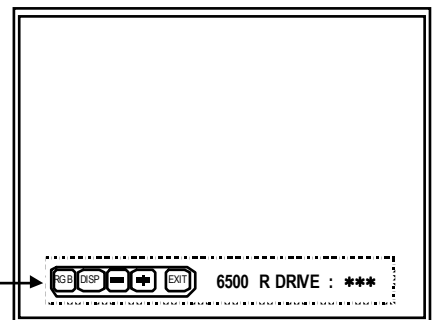

Fig.11
- ①In the WHITE BALANCE menu screen, press the **CONTRAST/BRIGHT** key to enter to the 6500 DRIVE adjustment mode (Fig. 11). In this case, press the **VOLUME/SELECT (-)** key, enter to 9300 DRIVE mode.
- ②Whenever press the **CHROMA/PHASE** key, change the "R DRIVE" or "B DRIVE" adjustment mode.
- ③**CONTRAST/ BRIGHT** key is the switch of the screen display. If necessary, you can shut off the display. Carefully, values of adjustment items are changed while shut off the screen display.